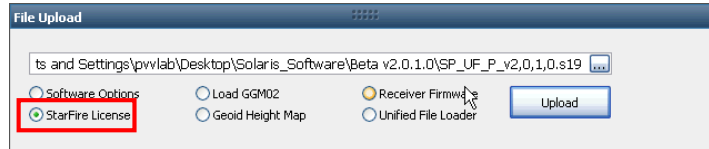

Figure 34: StarFire License
73. Select *StarFire License* in the *File Upload* window on the *Receiver Options* tab (see Figure 34).
76. Select the StarFire License file. The path to the file appears in the upload field (see Figure 34).